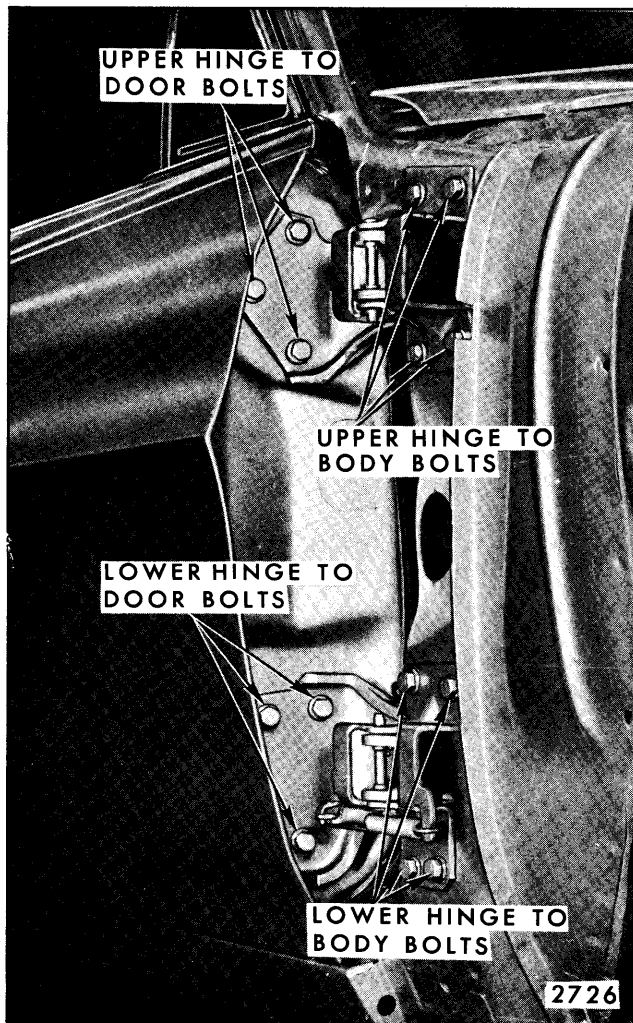

Fig. 6-53—Front Door Hinge Attachment - "B-C & E" Styles
The front door is mounted to the front body hinge pillar with an upper and lower hinge. Figures 6-53 and 6-54 illustrate typical front door hinge installations. On "B, C & E" styles, the hinges are the "swing-out" type, which means that the leading edge of the door swings outboard of the front fender when the door is opened. All other styles use "swing-in" type hinges, which means the leading edge of the door swings inboard of the front door when opened.
2. With the aid of a helper to support door, remove upper and lower hinge to door attaching bolts (Fig. 6-53) and remove door from body.